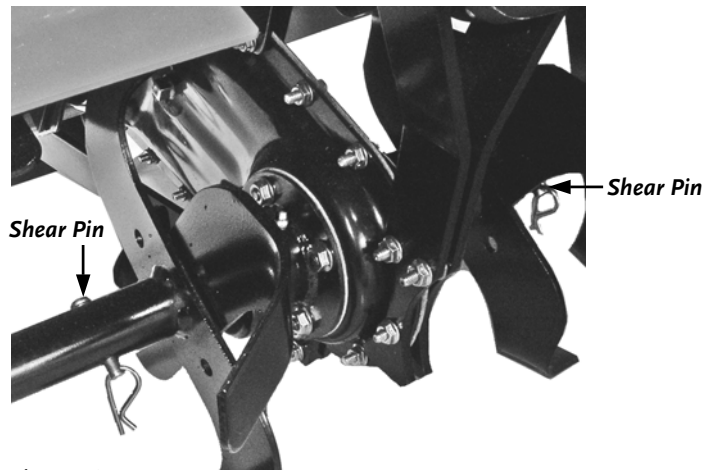

Figure 21
- The DR ROTO-HOG POWER TILLER drive components are protected from damage by Grade 5 Shear Pins in the Tine Assemblies (**Figure 21**). The Shear Pins hold the Tine Assemblies in proper location on the Drive Axles. Should a Tine Assembly strike or pick up a large hidden object and jam, the Shear Pin holding the Tine Assembly to the drive shaft will shear or break, and the drive components of the DR ROTO-HOG POWER TILLER will not sustain damage.
- Two (2) extra sets of Tine Shear Pins are included with the DR ROTO-HOG POWER TILLER.